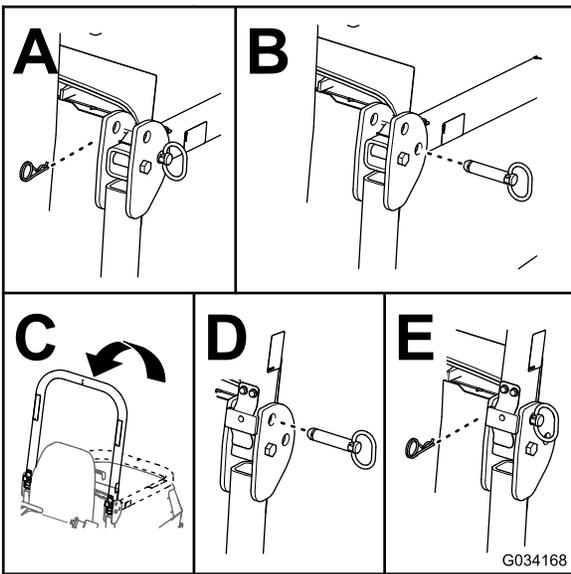

Figure 28
2. Remove the cotter pins and pins from the roll bar (Figure 28).
3. Raise the roll bar and secure it in place with the pins and cotter pins (Figure 28).